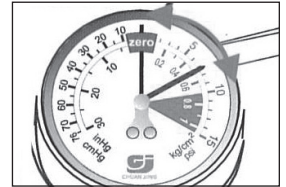

Figure 14
2. Switch the lever to the “OUT” position, pump the handle and then the indicator gauge will be in the normal area: 0~10psi (0~0.7kg/cm²) (Figure 14).